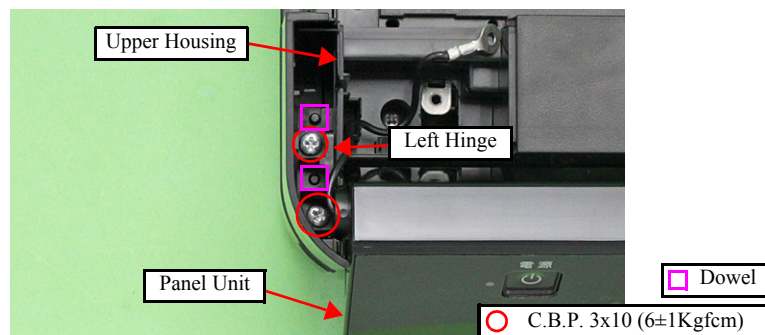

Figure 9-49. Removing the Panel Unit (2)
- When installing the Panel Unit, align the dowels (x2) of the Upper Housing with the positioning holes (x2) of the Left Hinge. (See Fig. 9-49 (p.312).)